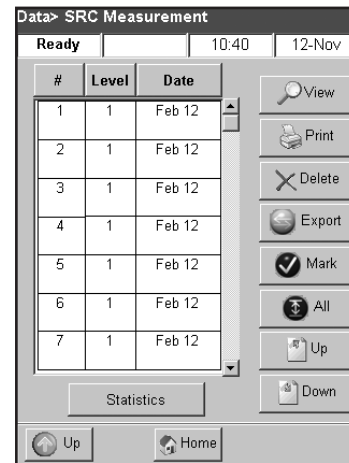

Figure D-3: SRC measurements
3. On the Data>SRC Measurement screen (Figure D-3), select the run (located on the left) that you want to review.
4. Tap the applicable button on the right (Figure D-3):